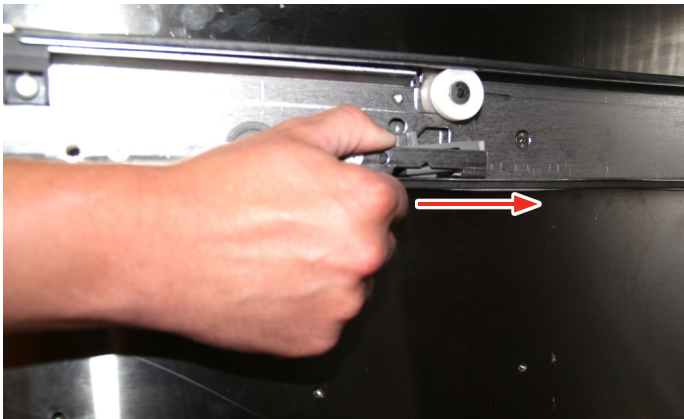

Fig. 17
6. Push back on the slider lock to release the lock (Fig. 17).